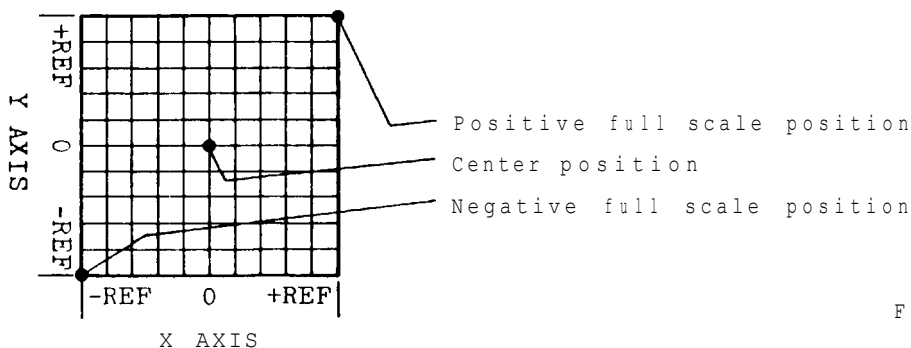

Figure 1-2
The readout plotter or oscilloscope is calibrated so that the full scale horizontal and vertical axes extend between the computer's negative and positive reference (minus to plus ten volts) as shown in Fig. 1-2.
4. Adjust the plotter or oscilloscope Y and X zero controls until the plotter's pen or oscilloscope's dot is in the graph or display center position as shown in Fig. 1-2.
6. Adjust the plotter or oscilloscope Y and X scale controls until the plotter's pen or oscilloscope's dot is in the graph or display negative full scale position as shown in Fig. 1-2.